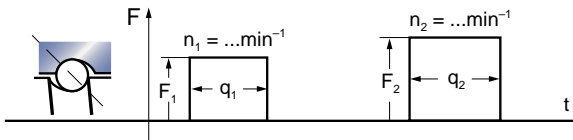

FIG. 11
- Ca = the dynamic load rating (N)
- Fm = the equivalent applied load (N). Loads can act on a ballscrew drive in two directions. Fm should be determined for each of the load directions; the larger value should then be used in the calculation of L. It is useful to draw a schematic diagram as (Fig 11), it should be noted that any preloading represents a continuous load.
From Fig 11